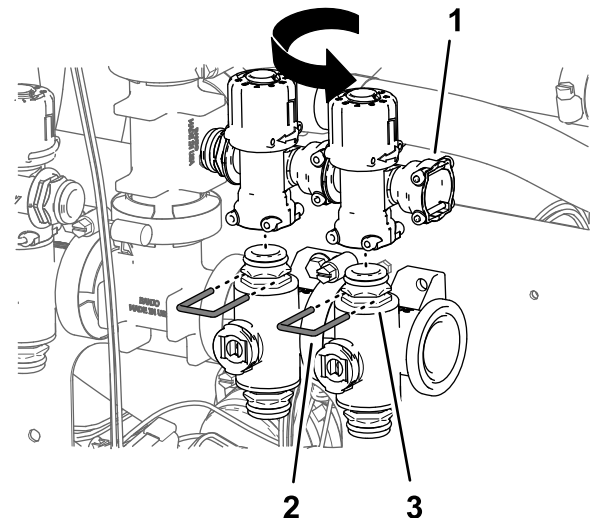

Figure 101
8. Repeat steps 5 through 7 for the bypass valves of nozzle valve 6 and nozzle valve 7 (Figure 101).